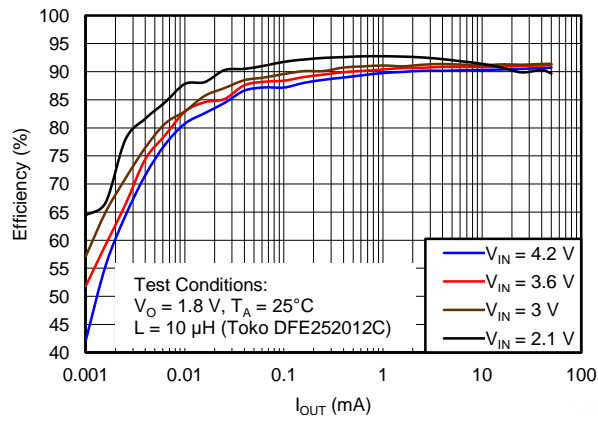
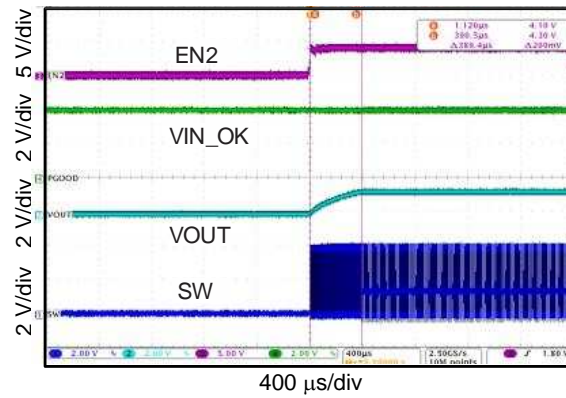

Figure 3. Efficiency Versus Load Current,  $V_{OUT} = 1.8\text{ V}$
Figure 7. Standby-Mode Startup Behavior
1. If measuring DC waveforms similar to those shown in Figure 3 – Figure 7, set the timebase as shown in the plot and connect the probes to the applicable headers (IN, OUT, VBAT\_OK) or SW pin and the closest GND header.